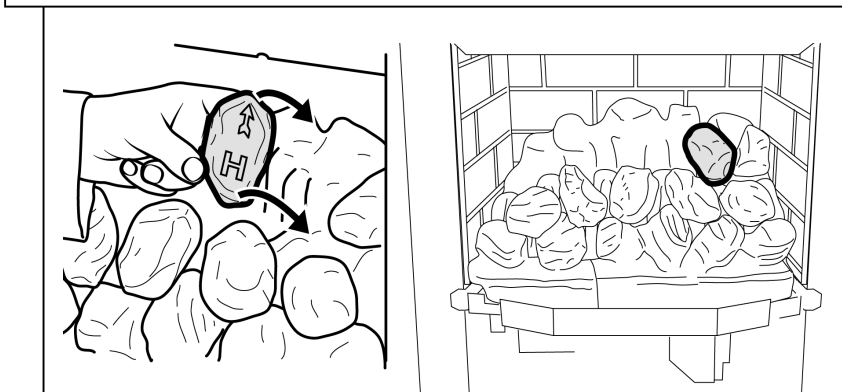

Figure 13. Third row "Coal H"
18. Hold coal 'H' upright with the arrow pointing to the top. Locate coal 'H' as shown in figure 13